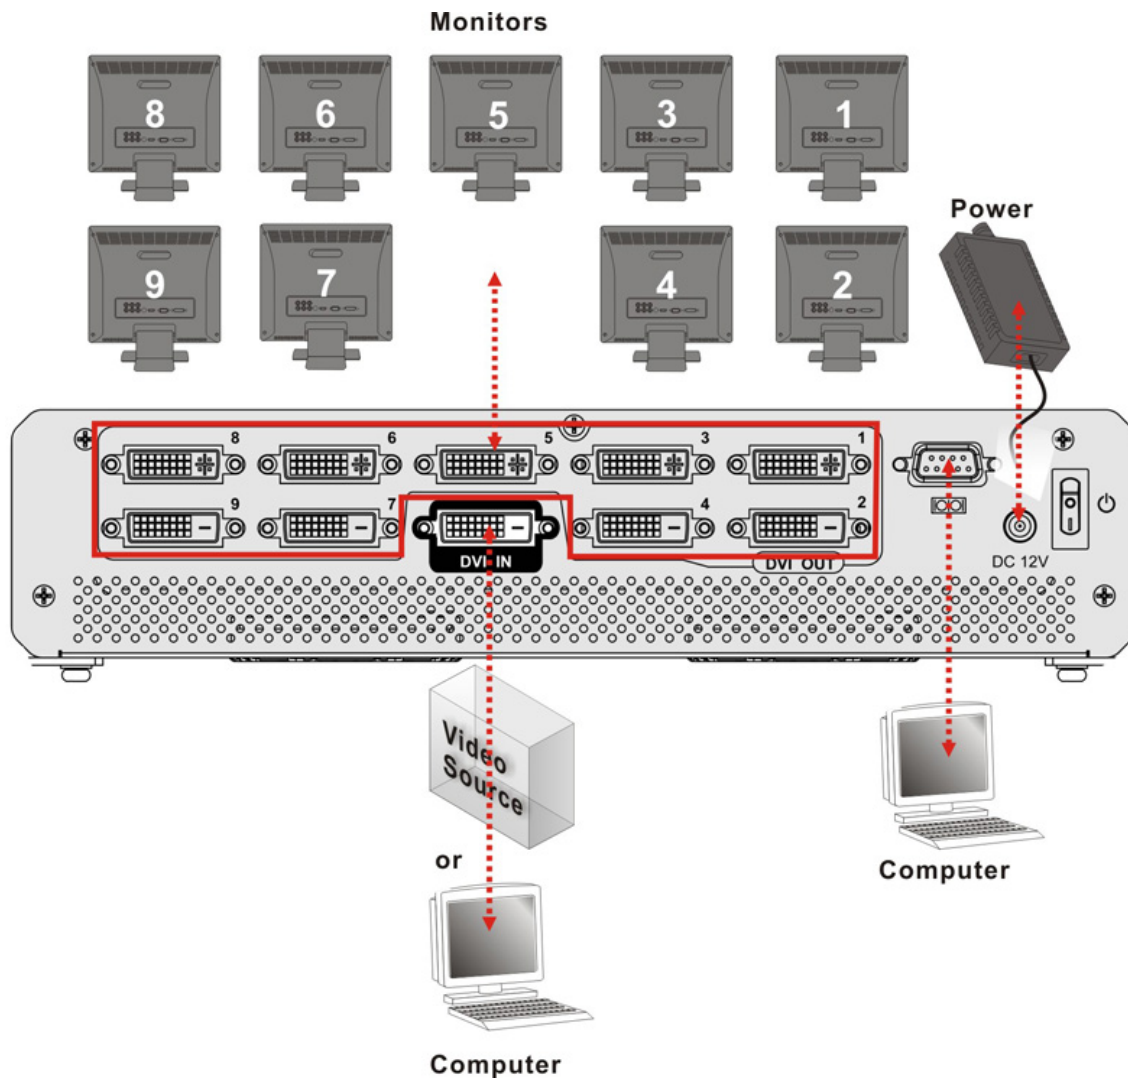

Figure 3-8: Cable Connections
The cables that need to be attached are listed below and their connections are shown in **Figure 3-8**:
- **DVI-D output cables** – from the VWBOX-E133 to the LCD panels or other slave video box controllers. Make sure the cables are connected to the correct monitors as shown in **Figure 3-8**.